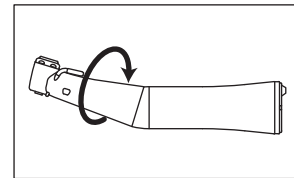

Fig. 6
- 3) Turn the head in the direction of the arrow holding the shank. (Fig.6)